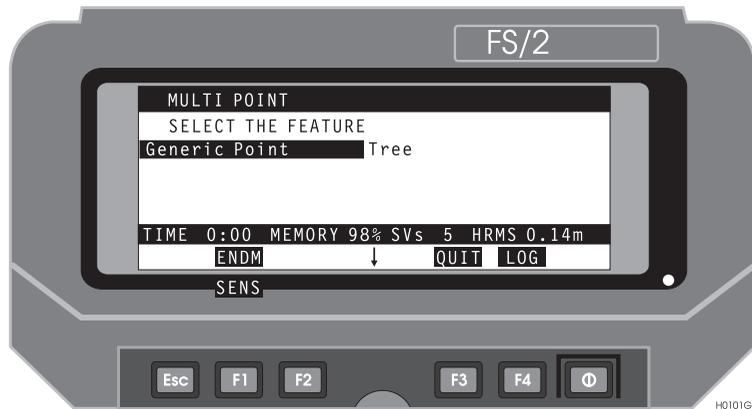

Figure 3.14: Multiple Point Screen
3. Press **F1 (BEGM)**. The Multi Point screen appears, Figure 3.14.